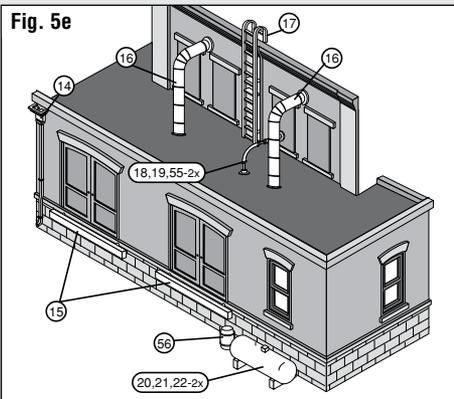

Fig. 5e
Right Side (Fig. 5e): Medium Downspout (14), Dock Bumper 2x (15), Pipe 2x (16), Ladder (17), Water Pipe Assembly (18, 19, 55-2x), Trash Can (56), Propane Tank Assembly (20, 21, 22-2x)